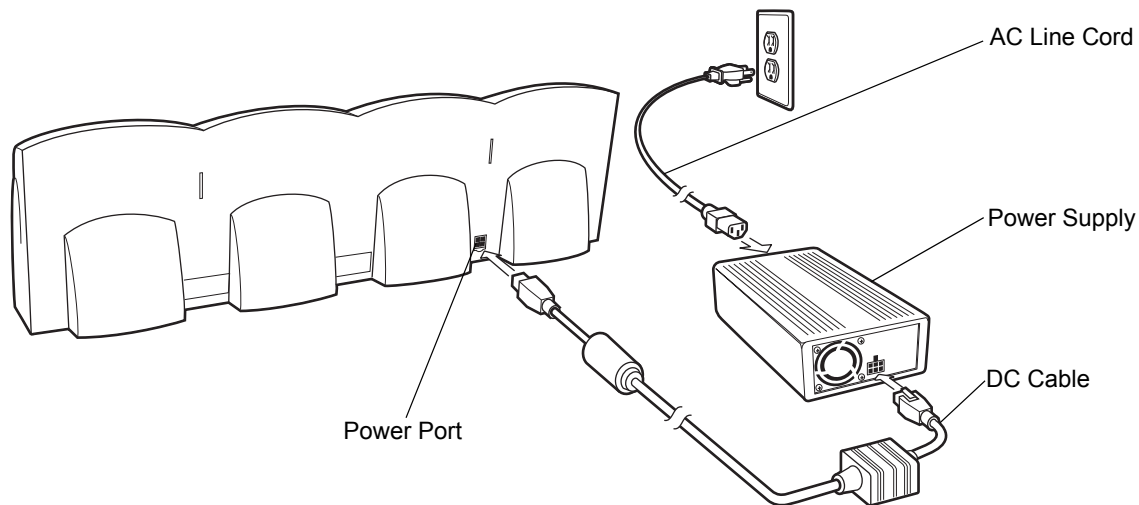

Figure 2-3 *Four Slot Charge Only Cradle, Setup*
5. Connect the power (see Figure 2-3 on page 2-8). The power supply should be located in the power supply well.